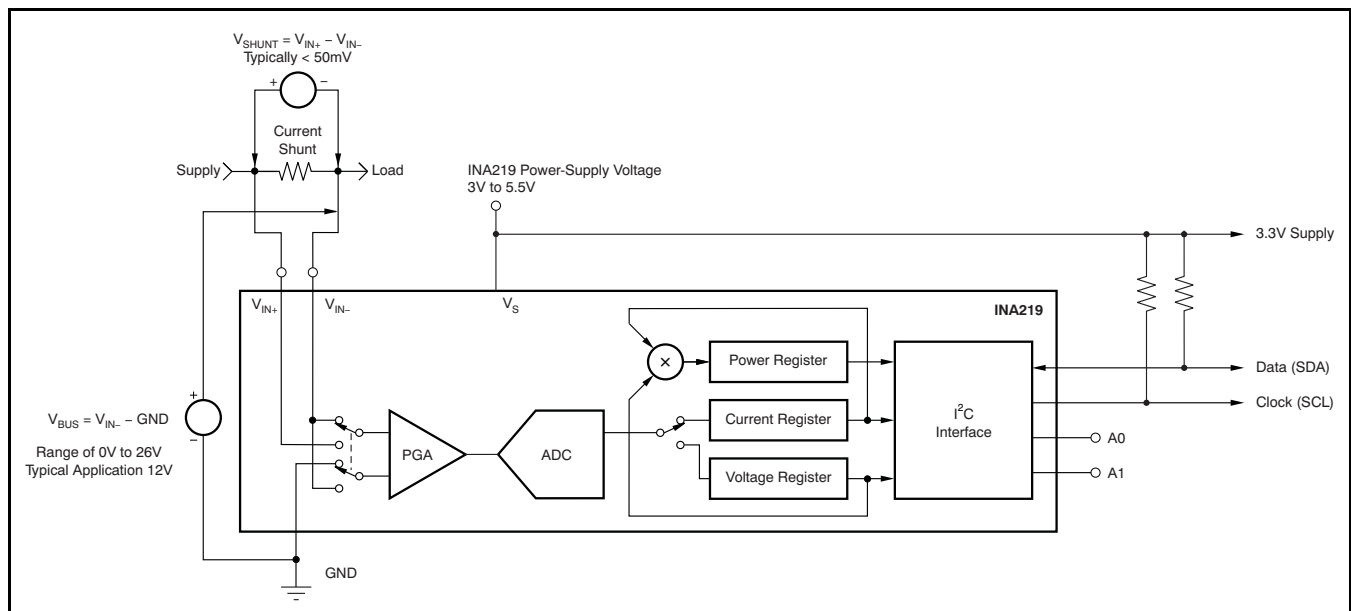

Figure 19. INA219 Configured for Shunt and Bus Voltage Measurement
(2) Read data is from the last register pointer location. If a new register is desired, the register pointer must be updated. See Figure 19.
(3) ACK by Master can also be sent.
The two analog inputs to the INA219, V_{IN+} and V_{IN-} , connect to a shunt resistor in the bus of interest. The INA219 is typically powered by a separate supply from +3V to +5.5V. The bus being sensed can vary from 0V to 26V. There are no special considerations for power-supply sequencing (for example, a bus voltage can be present with the supply voltage off, and vice-versa). The INA219 senses the small drop across the shunt for shunt voltage, and senses the voltage with respect to ground from V_{IN-} for the bus voltage. Figure 19 illustrates this operation.